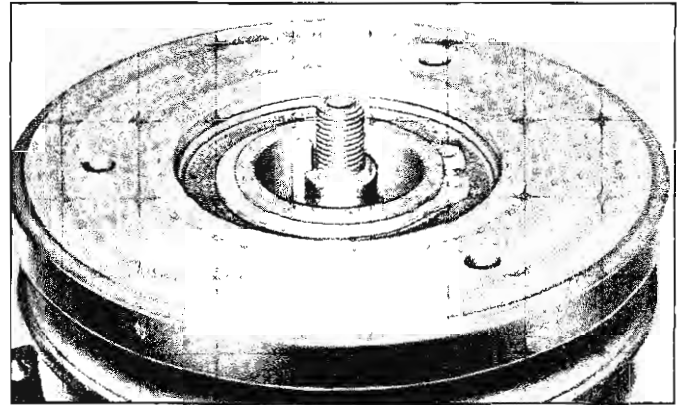

Fig. 15—Drive Plate Key Installed in Keyway
1. Insert the square hub and drive plate key into the keyway in the drive shaft allowing it to project approximately 3/16" out of the end of the keyway (fig. 15).